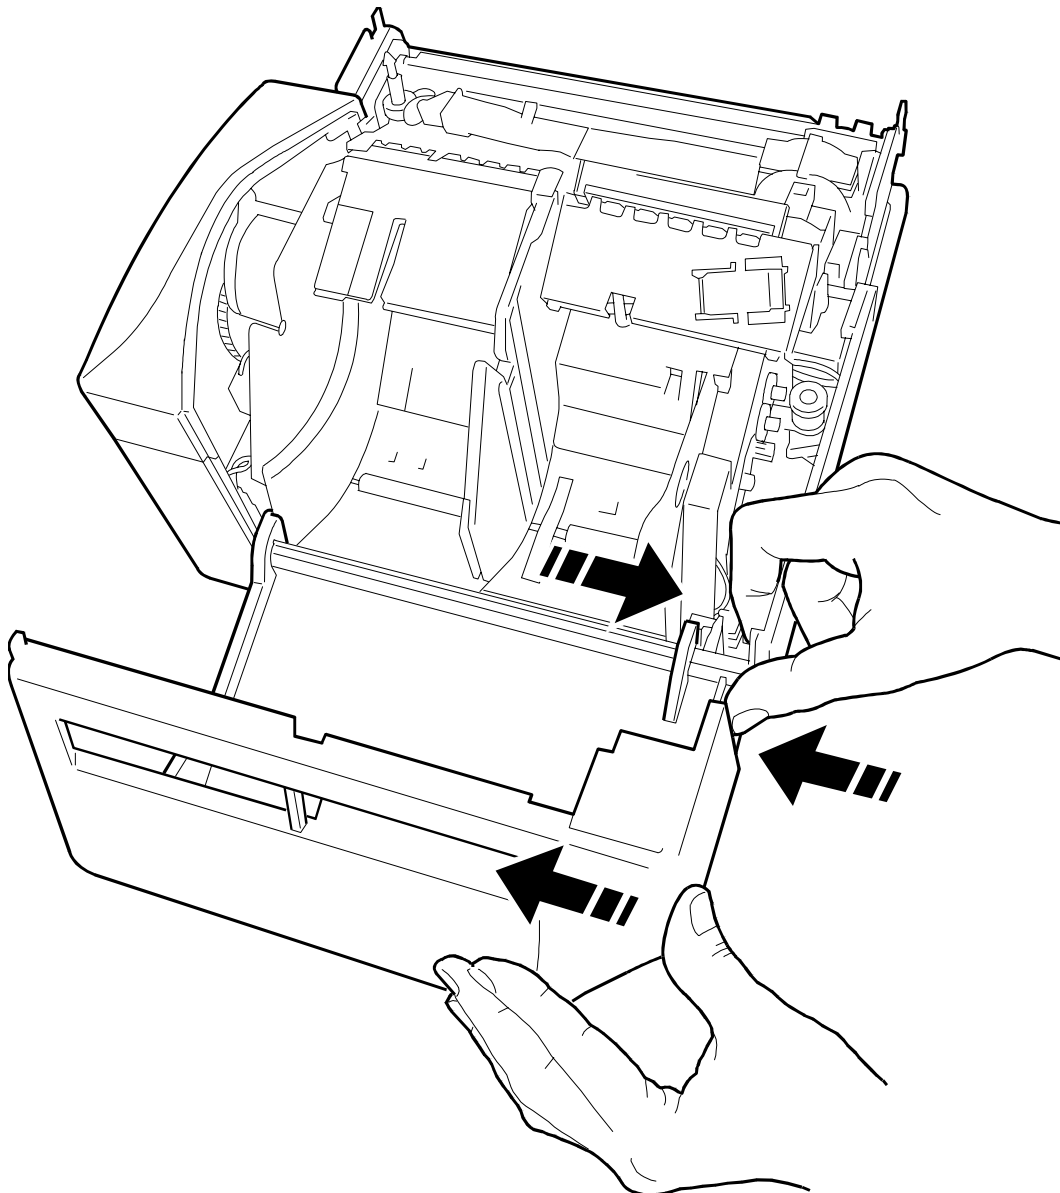

Figure 5-3
- The cover of the paper rolls can also be removed manually by proceeding as shown in Figures 5-3, 5-4.